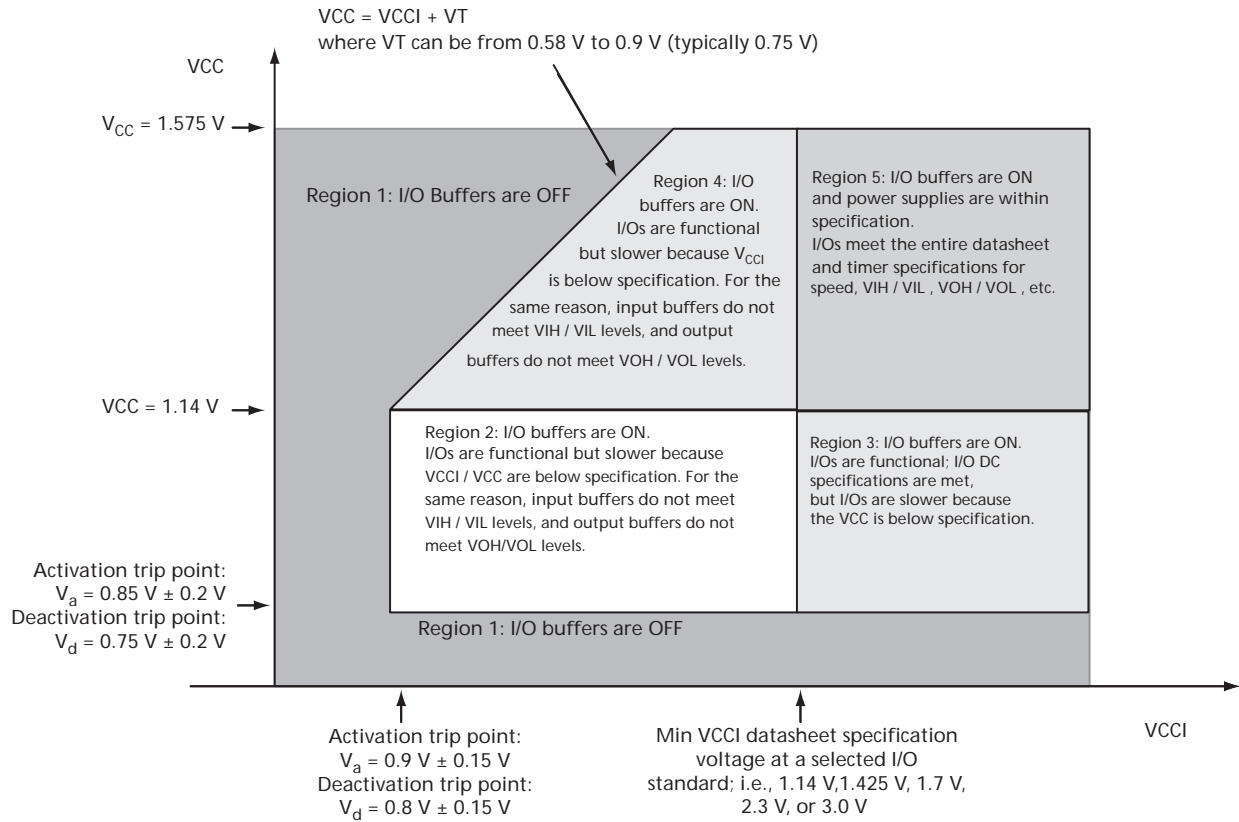

Figure 2-2 • V2 Devices – I/O State as a Function of V_{CCI} and V_{CC} Voltage Levels
1. VCC and VCCI are above the minimum specified trip points (Figure 2-1 and Figure 2-2 on page 2-5).